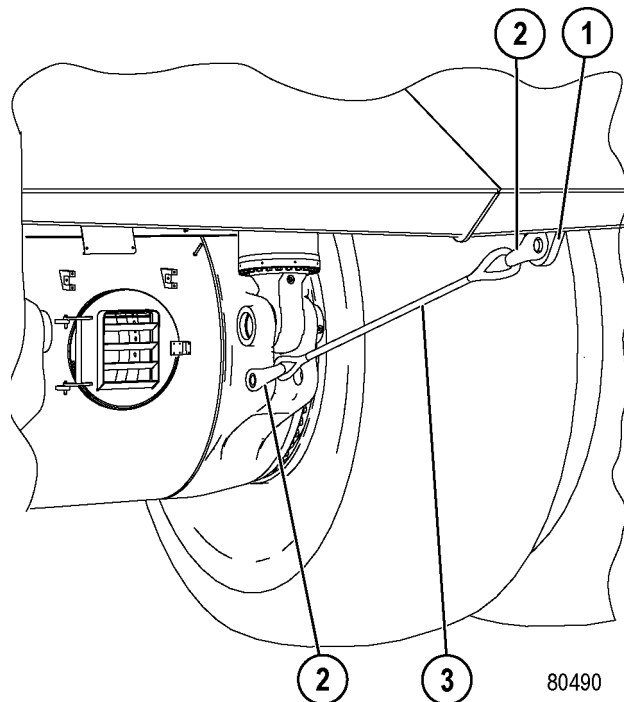

FIGURE 20-1. BODY RETENTION SLING INSTALLATION
2. Install two shackles (2, Figure 20-1) and body retention sling (3) between rear body ear (1) and the axle housing.